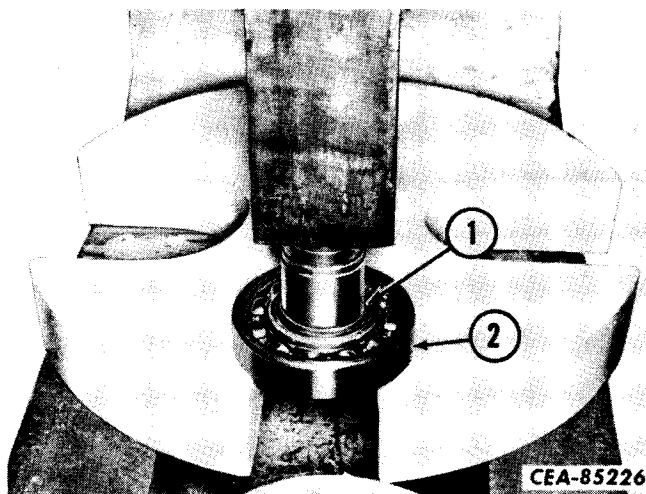

Figure 3-25
Place the driven gear bearing in the arbor press. Press the bearing retainer (1, Fig. 3-25) out of the bearing (2). Be sure the bearing inner race is supported during the pressing operation to prevent bearing failure.